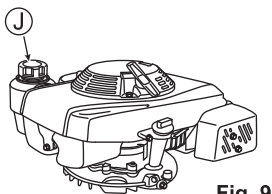

Fig. 9
1. Open the fuel tank cap (J) and refuel gasoline. Immediately wipe off with a rag if gasoline is spilled. (See Fig. 9)
2. Firmly close the fuel tank cap (J) after refueling.